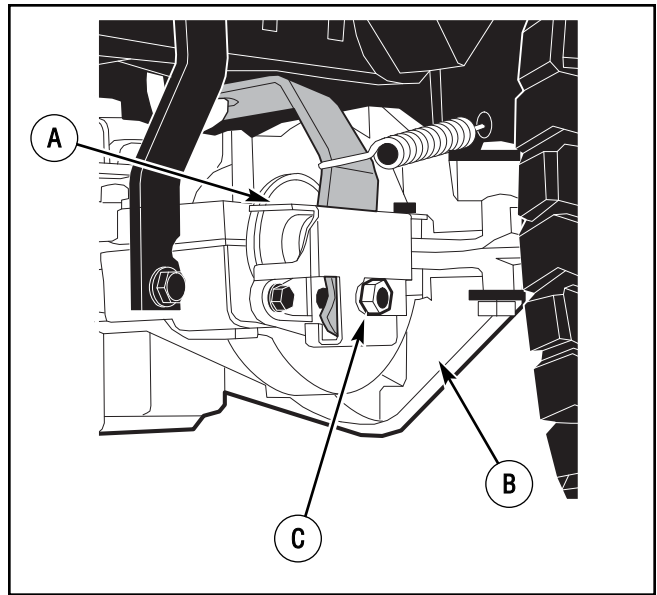

Figure 26: Adjusting drive brake
1. The location of the **drive brake** is on the right side of the **gearbox** (Figure 26).